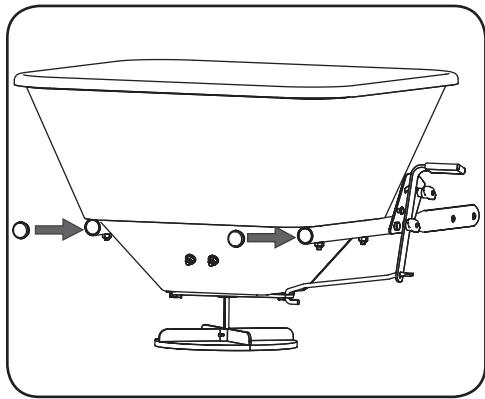

Figure 1-11
12. Insert plugs into rear ends of the single frame tubes. See Figure 1-11.